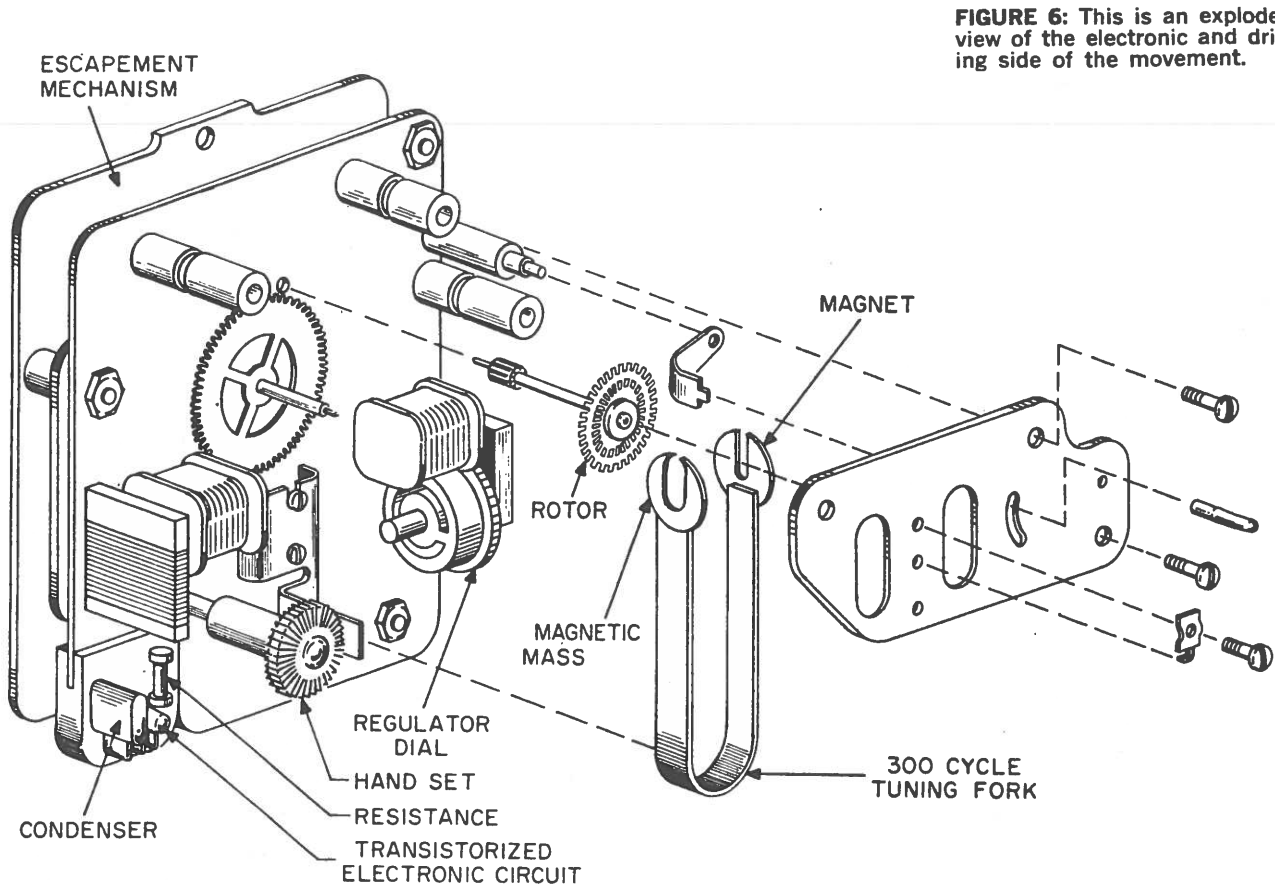
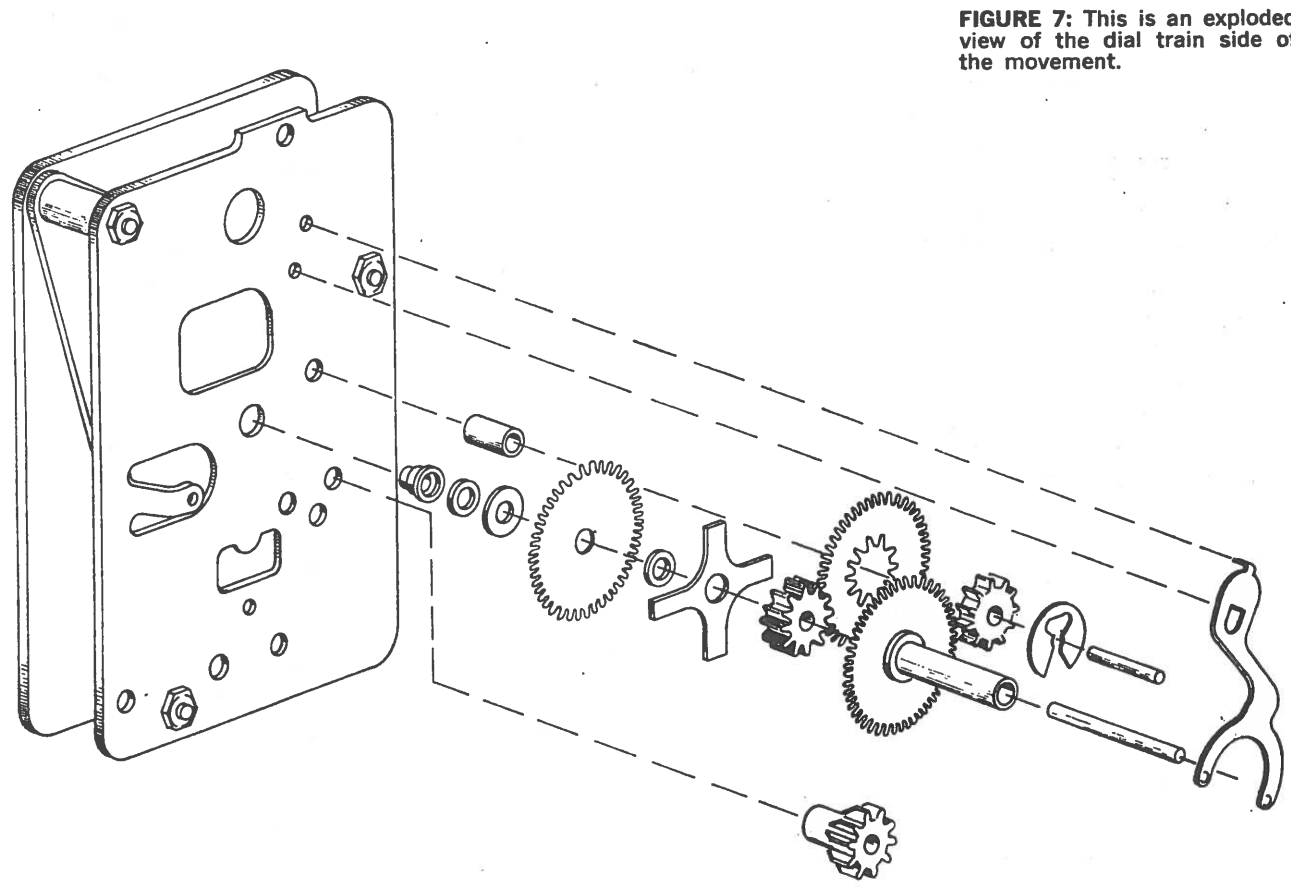

FIGURE 6: This is an exploded view of the electronic and driving side of the movement.
FIGURE 7: This is an exploded view of the dial train side of the movement.
*Figure 6* shows an exploded view of the electronic and driving side of the movement. *Figure 7* is an exploded view of the dial train side of the movement. There are four jewels in the train and starting is quite smooth. Since there is no spring-loaded train, there is no undue pressure or torque on the gear train bearings.